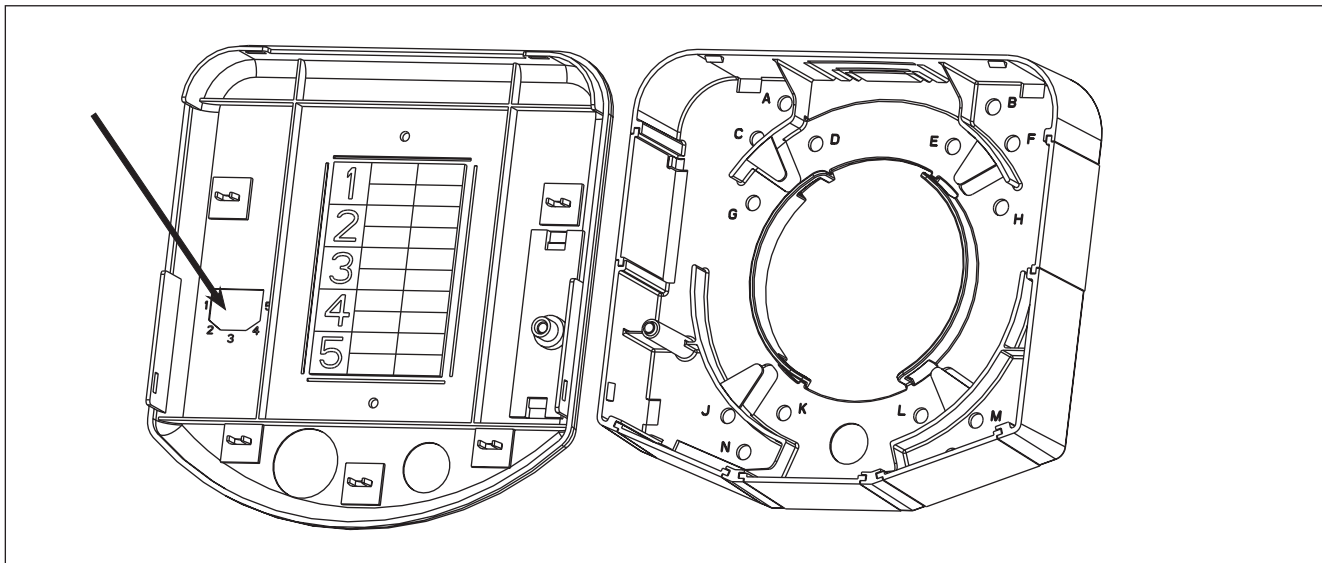

Figure 8
- Place an adhesive label from a hand-held label machine over the color matched flat strip on the WMO lid (Figure 8).